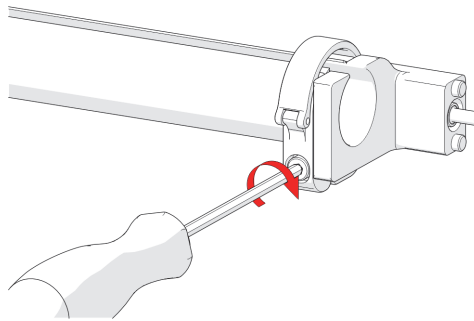

Figure 2-133 Tighten clamp screw
5. Tighten the clamp screw (see Figure 2-133 on page 148).